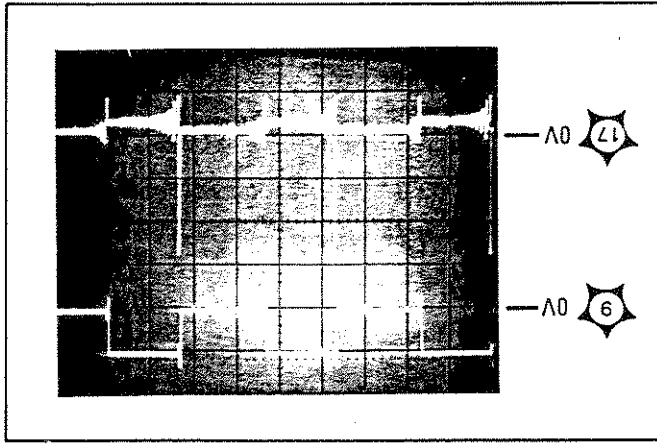

Figure 17. Pulse Input (A1TP9, 5V per division) vs. Waveform at A1TP17 (2V per division).
f. If both rise and fall time are out of specification, troubleshoot Q7, Q8, Q9 and Q10 using dc bias voltages, and the waveform of Figure 17.